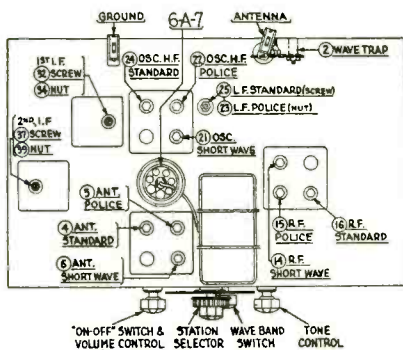

Fig. 2. Chassis of the Philco Model 97, showing location of trimmers.
(1) Remove antenna connection from receiver, disconnect grid clip from 6A7 and connect output of signal generator to 6A7 grid cap. Connect ground of signal generator to ground of receiver chassis.
(2) Connect output meter to plate prongs of the 42 pentodes or to the two bottom prongs of the speaker plug.
(3) Set signal generator at 460 kc. Set receiver tuning dial to the low-frequency end of the broadcast band, waveband switch to extreme left, and have the volume control adjusted near its maximum setting. Adjust signal generator attenuator for approximately half-scale reading of the output meter.
(4) Referring to Fig. 2, the i-f compensator condensers are located at the